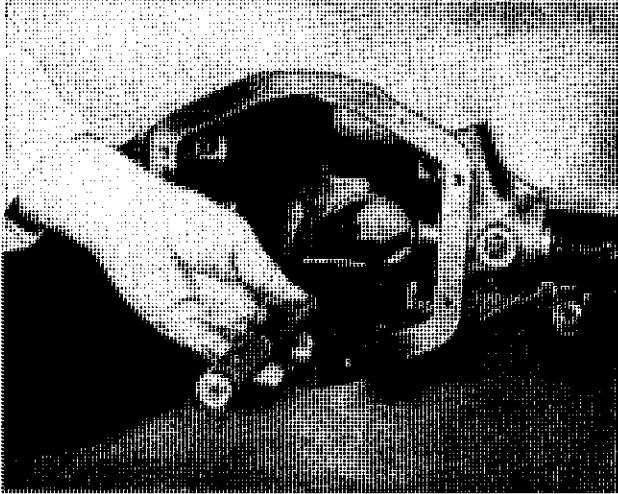

Fig. 12. Removing Pinion Outer Race—Tool No. 20S.71.
13. Drive out the pinion outer races as shown in Fig. 12. The removal of the ring for the tail bearing will also eject the oil seal and tail bearing inner cone. The ejection of the head bearing outer ring will uncover the shim fitted between this and the casing and these shims should be laid aside with the component parts of this race as a guide when reassembling.